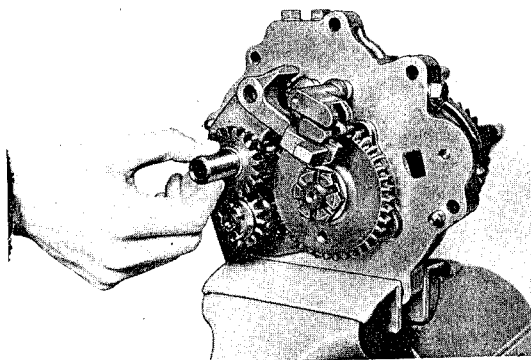

Fig. 48
32. Insert shaft for reverse idler through reverse idler into intermediate plate. This will provide a proper guide for the reverse gear selector rod and assure the proper position for adjusting selector forks for forward speeds (Fig. 48).